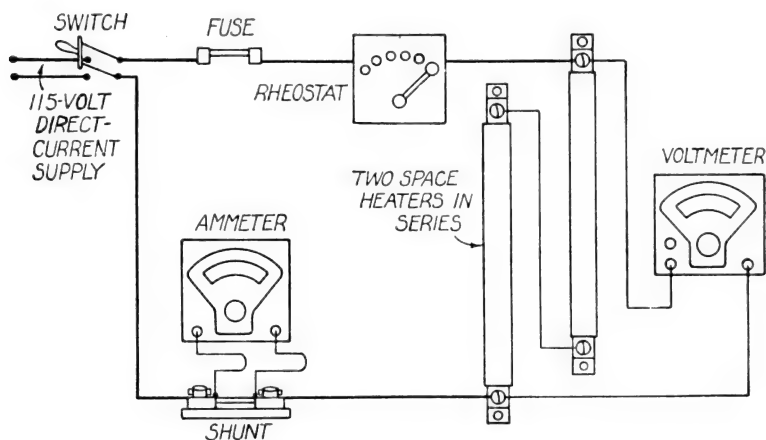

Fig. 19. Space Heaters Connected in Series
**Resistances in Series.** Next consider the two space heaters connected in series as shown in Fig. 19. The resistance of a series combination equals the sum of the resistance of the separate parts. Since we know that each space heater has a resistance of 25.8 ohms, the total resistance when the two are connected in series is